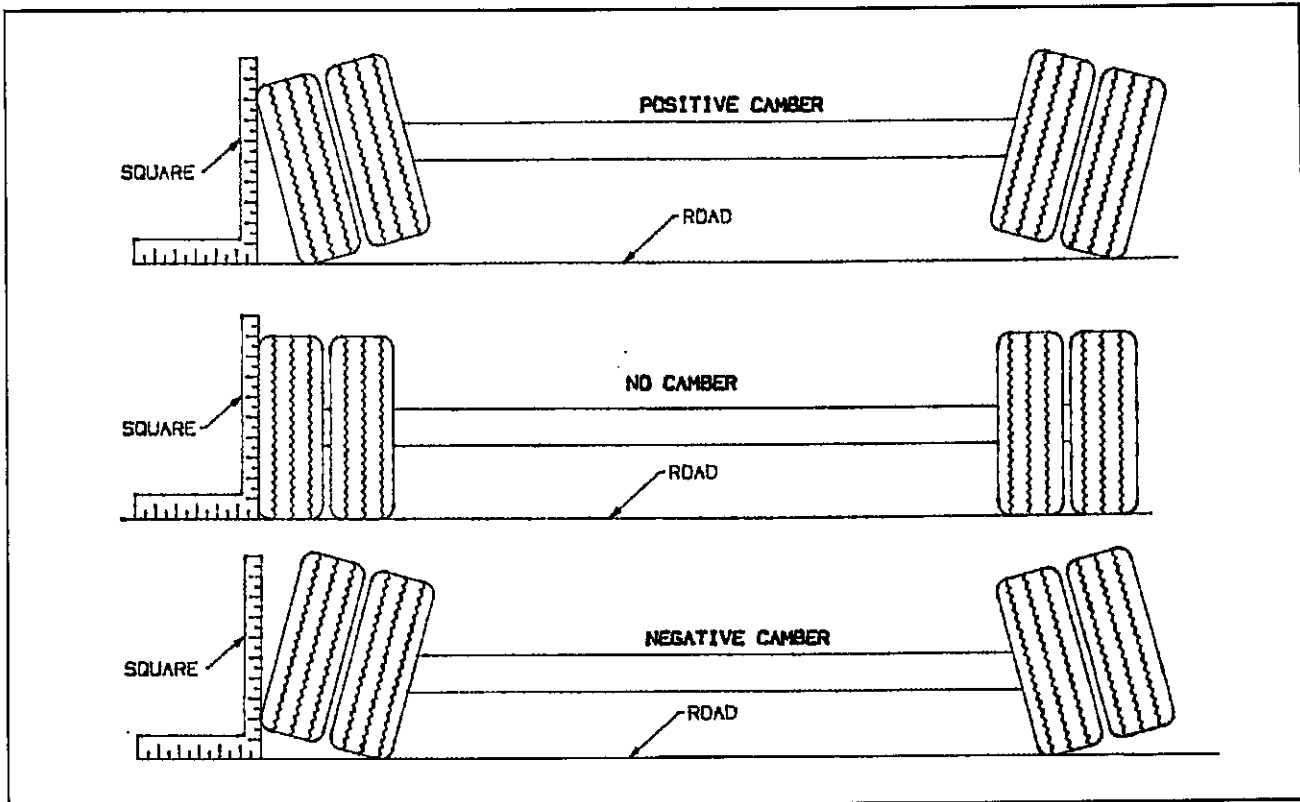

Fig. 4-8 Examples of Camber
d. Follow the same procedures as in Paragraph 4-10.1 b and c, except place the axle gauge above and below the axle. If gauge point gap is found, the axle has positive or negative camber. The semitrailer axle has no camber from the factory, thus if it is found to have positive or negative camber, axle replacement is necessary (see Figure 4-8 for examples of camber).